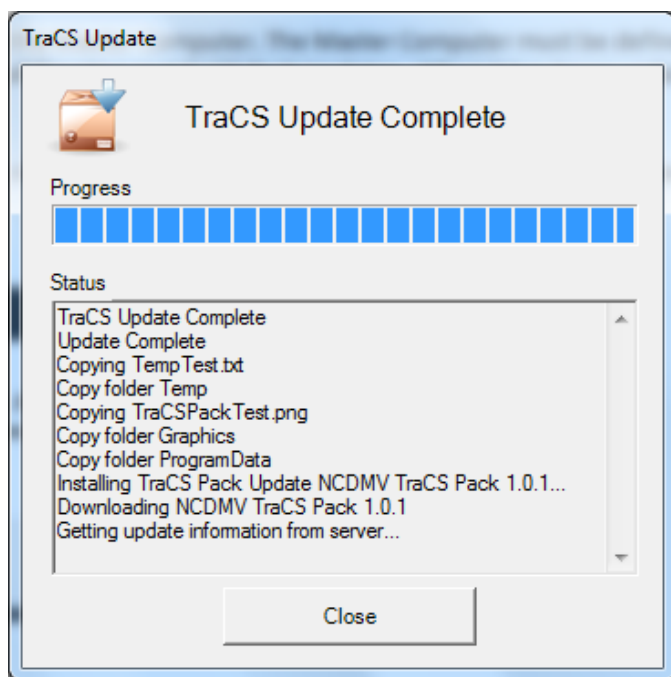

Figure 126. TraCS Update Window
2. Click **Yes**. The TraCS Update window opens, as shown in Figure 126.